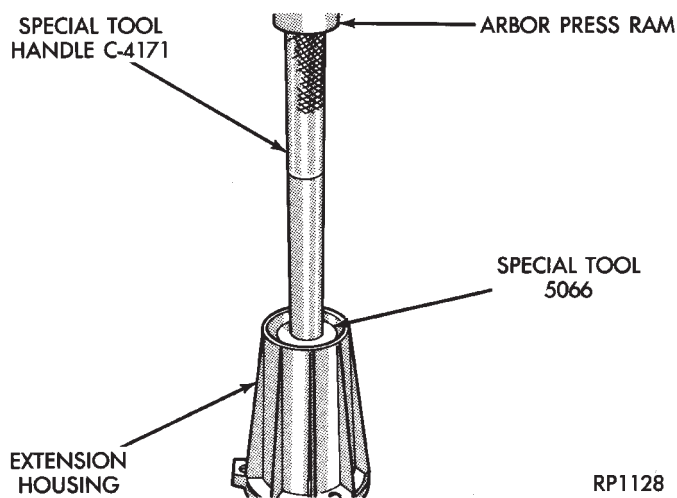

Fig. 65 Installing Extension Housing Bushing
(56) Install new extension housing bushing with Installer Tools C-4171 and 5066 (Fig. 65).